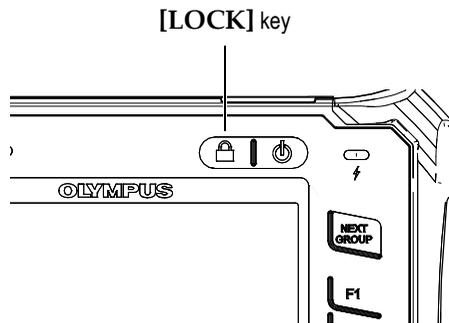

Figure 2-7 Adjustment knob configuration – **[LOCK]** key
- The **[LOCK]** key (knob configuration only) automatically locks adjustment of all parameters to prevent any unwanted parameter modifications due to an accidental movement of the knob (see Figure 2-7 on page 36).